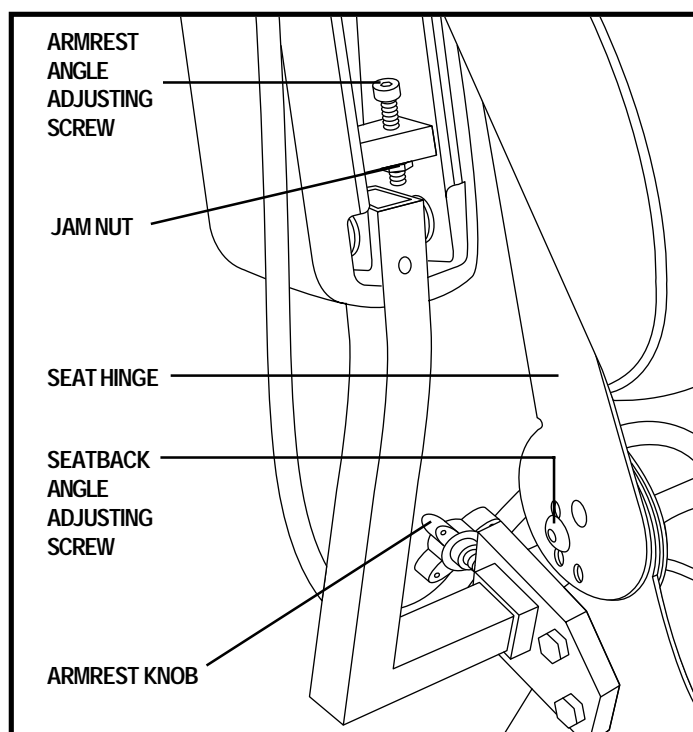

Figure 14. Seatback Angle Adjustment
1. Remove the adjusting screws from each seat hinge. See figure 14.
1. Locate the two armrest knobs on each side of the armrest receiver bracket. See figure 14.
1. Lift the armrest straight up so that it is perpendicular to the floor. See figure 14.